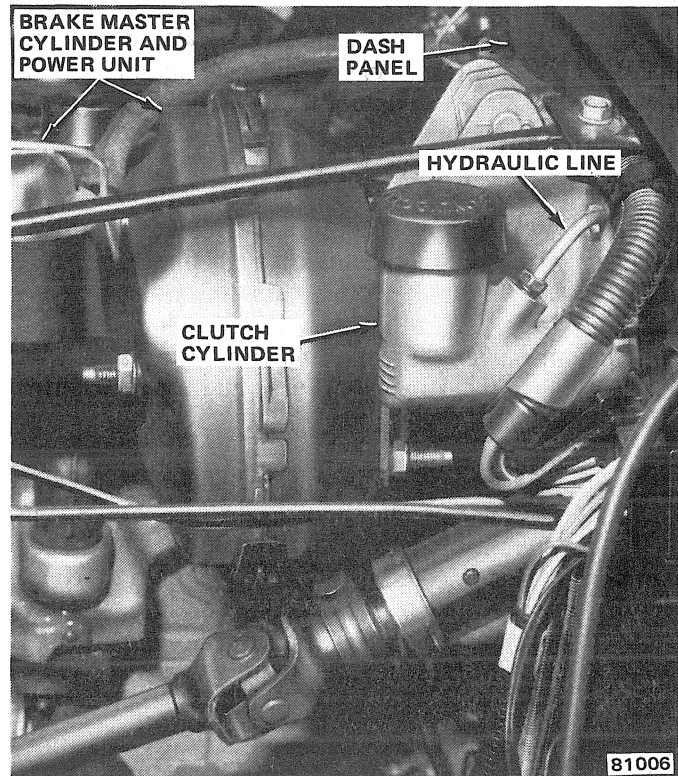

Fig. 2A-8 Clutch Cylinder Location
(2) Remove push rod dust cover. Use screwdriver to pry cover off cylinder. Discard cover after removal.
(3) Remove snap ring that retains push rod in cylinder. Use needlenose pliers to compress ends of snap ring and remove ring from cylinder bore. Discard snap ring after removal.
(4) Remove push rod, retaining washer and seal as assembly (fig. 2A-9). Remove and discard push rod seal.
(5) Remove plunger, valve spring, and valve stem assembly from cylinder bore (fig. 2A-9). Tap cylinder body lightly on wood block to dislodge assembly from bore.
(6) Compress valve spring slightly and pry tab of valve stem retainer upward to release retainer, spring, and stem assembly from plunger (fig. 2A-10).
NOTE: *The retainer tab is located in the rectangular slot in the side of the stem retainer (fig. 2A-10). Use a small, thin blade screwdriver to pry the tab upward.*
(7) Remove seal from plunger (fig. 2A-9). Discard seal after removal.
(8) Remove spring retainer and valve stem from valve spring.
(9) Remove valve stem from retainer and remove spring washer and stem tip seal from end of valve stem (fig. 2A-9). Discard stem tip seal and spring washer.
(10) Clean all parts thoroughly with brake fluid or brake cleaning solvent only.
(11) Inspect cylinder bore for cracks, porosity, wear, deep scoring or nicks, and severe corrosion or pitting. If bore exhibits any of these conditions, replace cylinder.